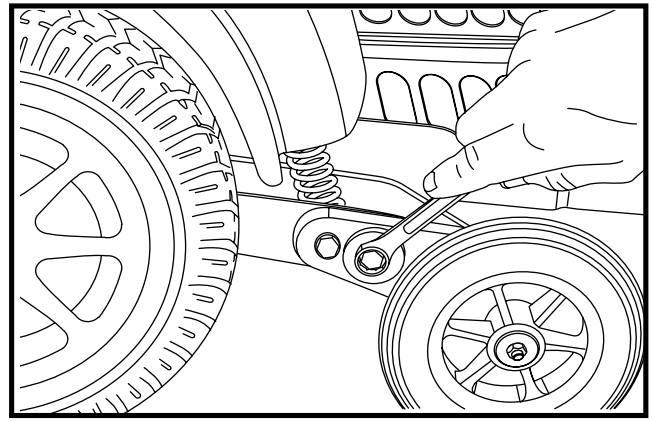

Figure 23. Anti-Tip Wheel Adjustment (Cam)
3. Place your wrench on the adjustable cam located on the other side of the locknut. See figure 23.